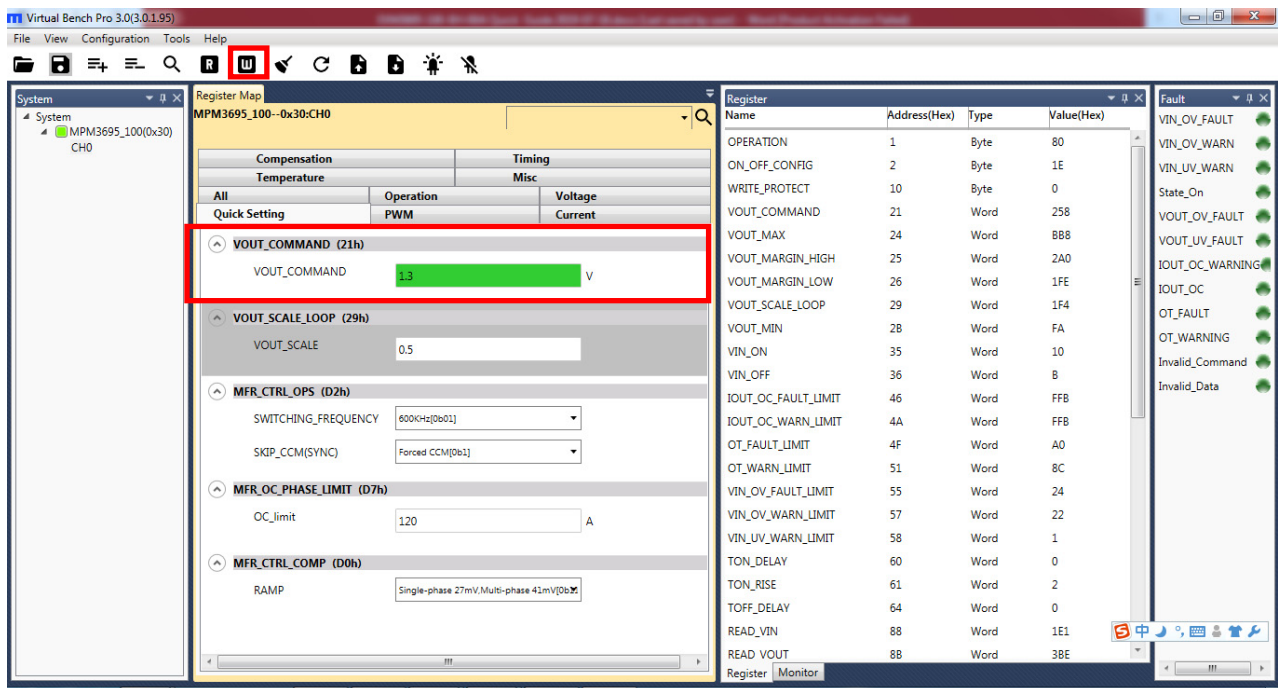

Figure 7: Writing Values to the Register
- Click “Write to chip” (denoted with a “W”) to write values to the register (see Figure 7).